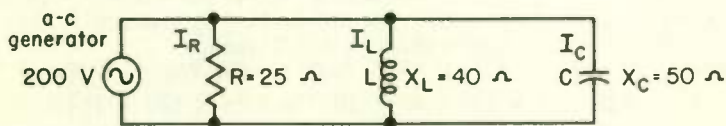
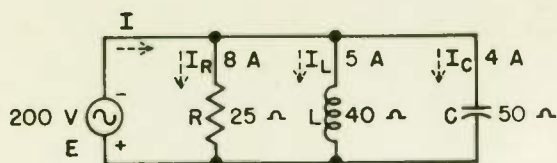
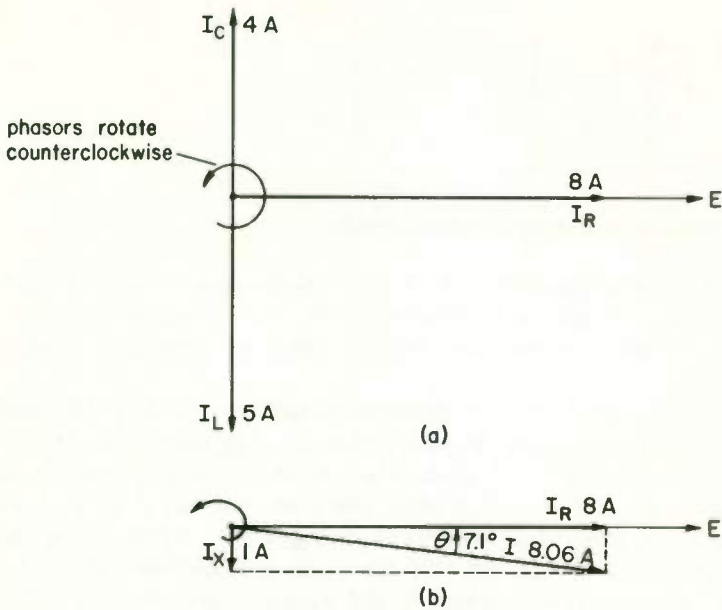

Fig. 2
Fig. 16 Components in parallel in an a-c circuit.
Fig. 17 Adding a-c currents in parallel circuits.
- In Fig. 2 the current I_R through resistor R is (a) _____ amperes. The current I_L through L is (b) _____ amperes. The current I_C through capacitor C is (c) _____ amperes.
- 5** TOTAL CURRENT IN PARALLEL CIRCUITS . . . Figure 16 is Fig. 2 redrawn, with the current values for I_R , I_C , and I_L (found in Problem 3 of the preceding topic) added. In order to use Kirchhoff's current law, the a-c generator is given polarity markings, and current direction arrows are shown. To draw the current direction arrows correctly, consider E as if it were a d-c voltage source with polarity as shown. Then mark arrows to show the direction in which d-c current would flow through these components. The purposes of the arrows are to provide a reference direction for tracing around the circuit, analyzing the circuit, and applying Kirchhoff's current law.
The reason dashed arrows are used in Fig. 16 is that these arrows do not indicate as much as the solid arrows of Fig. 8. The latter told us the true relative current direction. Dashed arrows pointing in the same direction in Fig. 16 do not mean that the currents associated with the arrows are actually flowing in the same direction. Since, for example,
By Kirchhoff's current law, the generator current I in Fig. 16 must equal the sum of the three branch currents. But since the branch currents are not in phase with each other, we must add vectorially to get their sum. The first step in finding the total current I is to draw a phasor diagram, which has been done in Fig. 17(a). Since a parallel circuit has but one voltage, we can use it as a reference vector for establishing the phase relationships of the various currents. The reference vector, E in Fig. 17(a), usually is drawn horizontally, and it can be drawn to any length.
Since the current through a resistance is in phase with the voltage across the resistance, I_R must be in phase with E , and it is so drawn in Fig. 17(a). Also, it is drawn 8 units in length. Next I_C is drawn 4 units in length and leading the applied voltage E by 90° and I_L is drawn 5 units in length and lagging the applied voltage by 90° .
To find the resultant sum I of the three phasors, we note first that I_C and I_L are 180° out of phase, so that the one subtracts from the other, giving a total inductive current I_X of $5\text{ A} - 4\text{ A} = 1\text{ A}$. A new phasor diagram, showing I_X and I_R , is now drawn as in Fig. 17(b). The resultant I can be found by measurement or by noting that I is the hypotenuse of a right triangle in which one leg is 8 A and the other leg is 1 A. Hence,
EXAMPLE 1 . . . Find the impedance in the circuit of Fig. 16.
SOLUTION . . . Figure 17 shows the total current I to be 8.06 A. Hence,